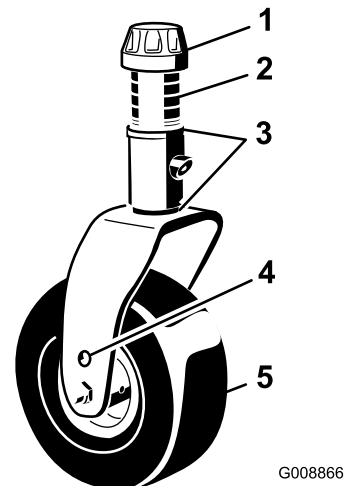

Figure 95
1. Remove the tensioning cap from the castor spindle shaft and slide the spindle out of the castor arm (Figure 95). Reposition the shims, as required, to raise or lower the castor wheel until the cutting unit has the correct pitch.